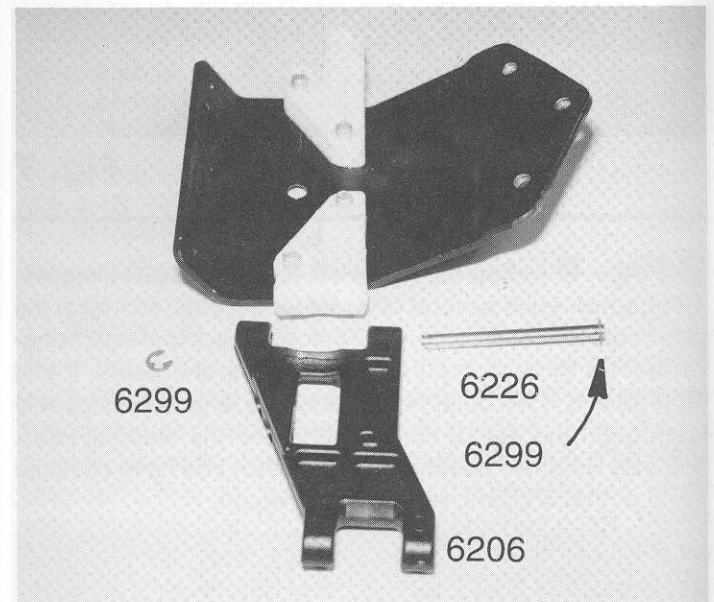

**Fig. 14**
□ **Fig. 13** In bag #6-1 you will find two small #6951 4-40 x 1/8" set screws. Locate your #6950 tool bag (which contains four sizes of Allen wrenches) in the large master parts bag. Take out the smallest Allen wrench (.050") and install the two set screws into the #6221 aluminum front axles. Rotate the steering blocks in the block carriers so that you can see the threaded hole on the back side of the front axle. Using the same Allen wrench, install the set screw into the back of the front axle until it tightens down on the kingpin as shown in fig. 14. Do the same with the other axle assembly.
□ **Fig. 14** Now remove the two #6206 new black front suspension arms from bag #6-1. They are made of stronger material. Removing the parts molding runner is harder than before. The best way to remove the runners from the arms will be to firmly grab the runner with a pair of slip joint pliers where the arm attaches to the runner, and push down with the pliers. When the runner breaks free, do the other three attaching points, then the other A-arm. Now carefully take your X-acto© knife and trim the ends to remove any of the remaining runner so that it will not interfere with suspension travel.